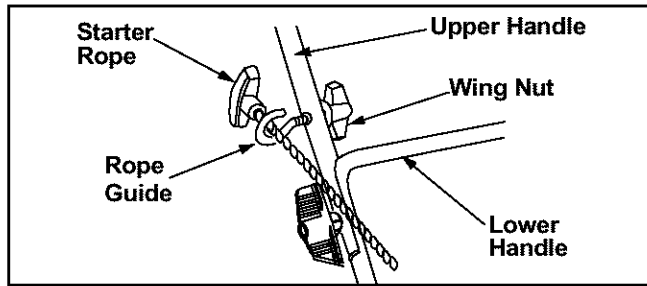

Figure 5
- The rope guide is attached to the right side of upper handle. Loosen the wing nut which secures the rope guide. See Figure 5.